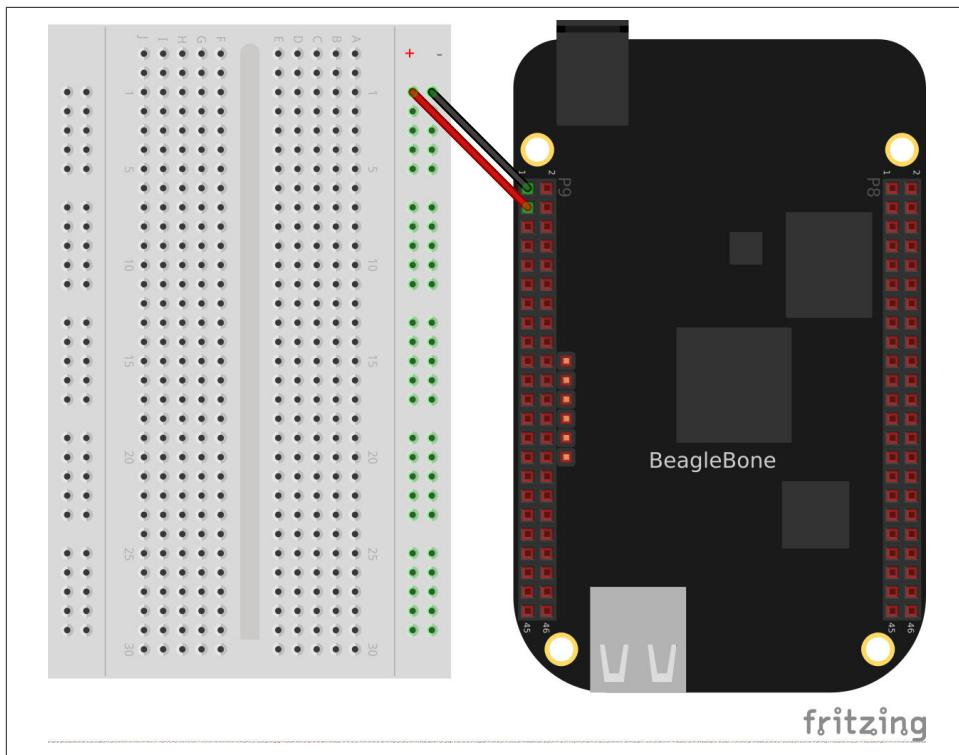

Figure P-1. Basic Fritzing setup
*Fritzing* is a useful open source program for creating hardware illustrations. With it, you can create breadboard diagrams, schematic diagrams, and designs for PCBs. Figure P-1 shows the basic setup used for all the diagrams in this book.